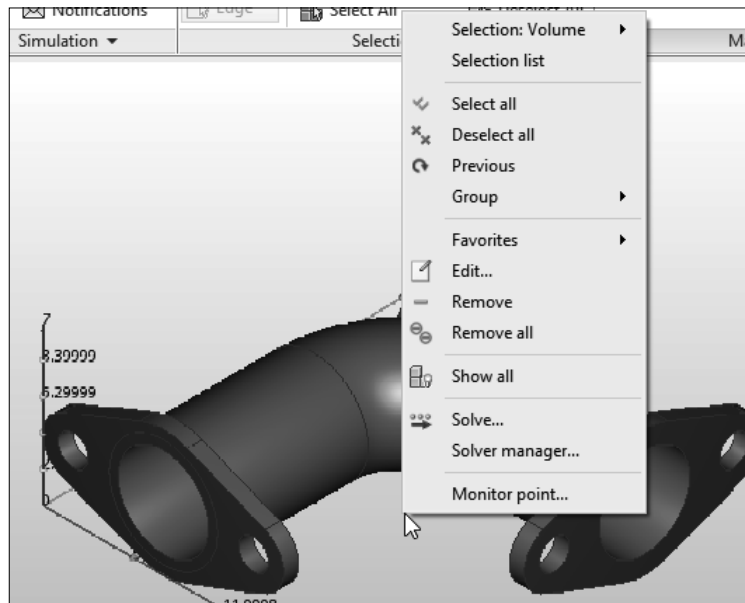

Figure-6. Right-click menus for Material
- After selecting **Materials** tool from **Setup Tasks** panel in the **Ribbon**. Right-click anywhere on the Graphics window. The right-click shortcut menu will be displayed; refer to Figure-6.